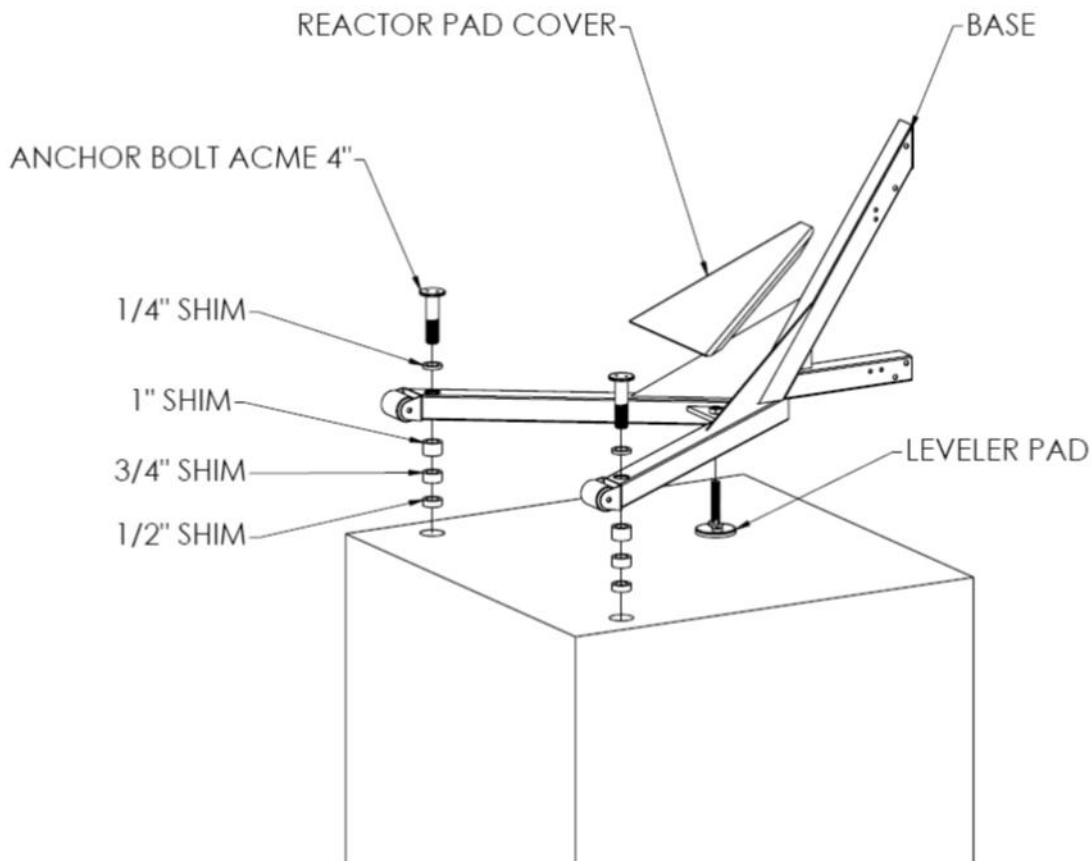

Figure 4
2. Use a 1-1/2" diameter concrete core drill to drill out the anchor holes to a depth of 2-3/16" as shown in Figure 4. Clean all of the debris from the holes. Check to see that the bottom of each hole is in solid concrete. The anchors will only hold if the surrounding concrete is solid. The top of the anchor should be  $\frac{1}{4}$ " below the deck surface. The anchors can be installed deeper, if necessary, to mount to sufficiently solid concrete.
5. Screw the Leveler Pad into the Base assembly as shown in Figure 4, flush with the bottom of the Base stand until further adjustment.
6. Bolt the lift to the anchors in the deck using two 1" by 4" acme bolts as shown in Figure 4. **Do not completely tighten the 1" diameter acme bolts at this time.**
10. Level the lift front to back, if necessary, by using donut shims between the base stand and each anchor, and adjusting the Leveler Pad by screwing the Pad in or out. The donut shims can be used individually or in combination to level the lift. The donut shims can be used above the anchor base or below as shown in Figure 4 to prevent the acme bolts from bottoming out in the anchors.
12. Install Cover on lift as shown in Figure 4.